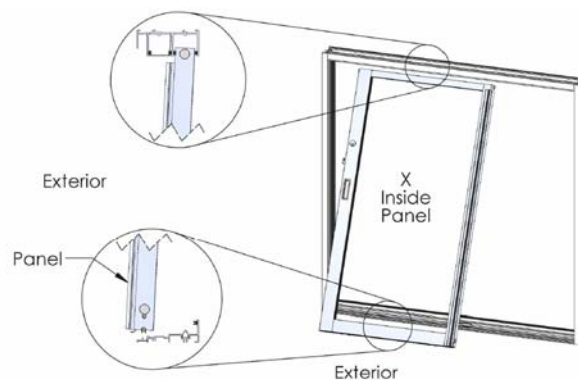

Figure 13:
1. From the outside, with the weather-strip facing outside, insert the “X” panel into the inside channel of the head. Push up and swing the bottom of the panel in and down onto the sill. Ensure the rollers are correctly seated on the stainless steel track (Figure 13).